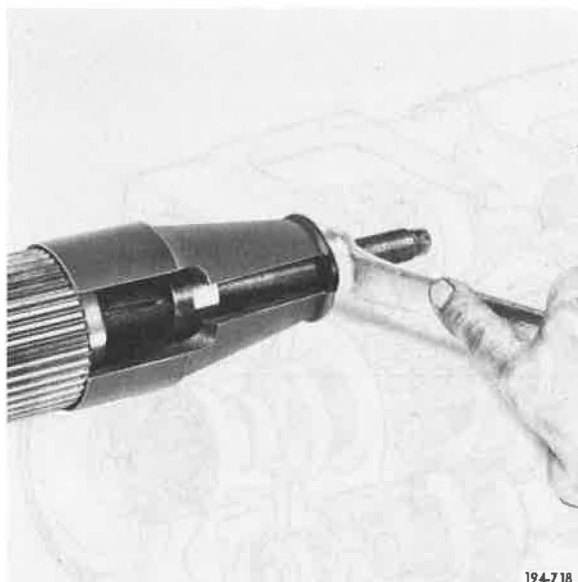

Figure 136. Removing Bearing
2. Remove rear compound mainshaft front bearing, using puller S501, or equivalent. See Figure 136.